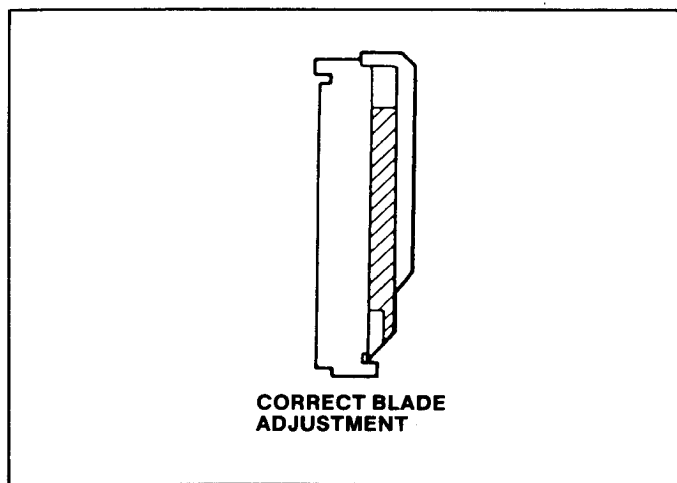

Figure 8
3. Slide the back forward until it rests against the lip of the set gauge as shown in Figure 8. Resecure the blade to the blade holder by fully tightening the screws.